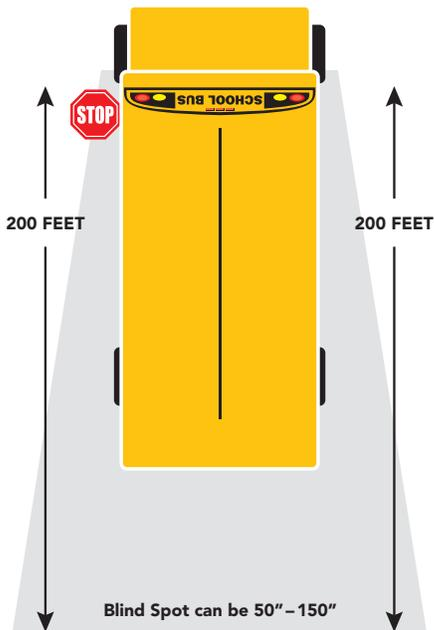

FIGURE 3.1
**Figure 3.1** shows how both the outside left and right side flat mirrors should be adjusted. This would include cones L-P in the Federal Field of View Test. See Federal Field of View Illustration. The driver may need to lean forward to see cone P in the right side flat mirror.